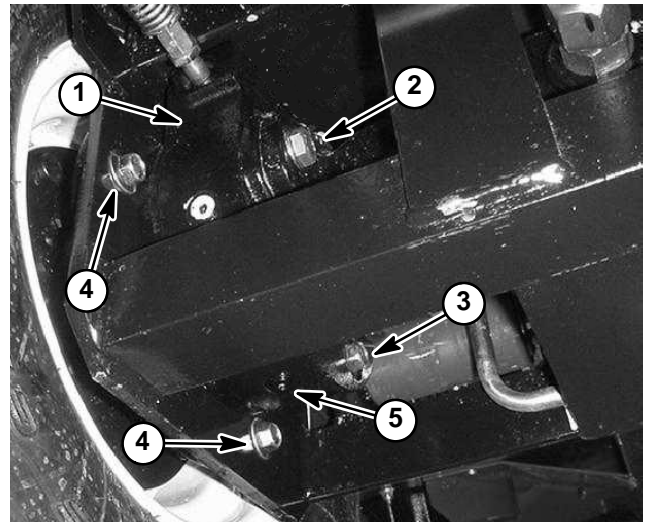

Figure 7
7. Make sure drain plug is installed in bottom of brake assembly (Fig. 7). Fill planetary wheel drive/brake assembly with SAE 85W-140 gear lube. Capacity is approximately 16 fl. oz. (0.47 l) per wheel.